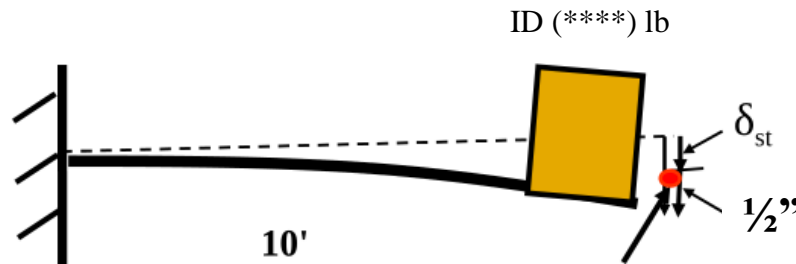

Figure 1
A beam shown in Figure 1 is pulled for 1/2 inch in the downward direction and then suddenly released to vibrate freely. Determine natural time Period of the system and develop and solve the equation of motion for vibrations resulting at free end. Also develop the equation showing variation in the Equivalent static forces with time. What will be the amplitude of equivalent static force? Ignore the self-weight of beam as well as damping effect. Take $E = 29,000$ ksi and $I = 150$ in⁴. δ_{st} = Deflection due to (ID) lb static load. Also draw the graph to show the variation of displacement with time, and the variation of equivalent static forces with time. (CLO-2) **15 marks**